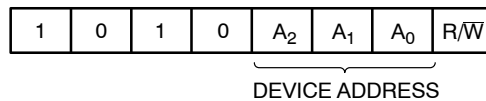

Figure 3. Slave Address Bits
The Master addresses a Slave by creating a START condition and then broadcasting an 8-bit Slave address. For the NV24C64LV, the first four bits of the Slave address are set to 1010 (Ah); the next three bits, A2, A1 and A0, must match the logic state of the similarly named input pins. The R/W bit tells the Slave whether the Master intends to read (1) or write (0) data (Figure 3).